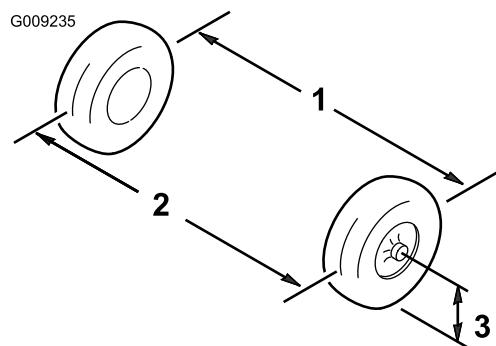

Figure 41
- Measure the distance between both of the front tires at the axle height at both the front and rear of the front tires (Figure 41).